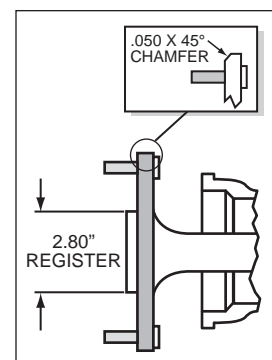

Figure 3. Axle Flange Maximum Dimension
- Axle center register diameter is 2.80", Figure 3. This kit uses Wilwood's removable center register adapters. Rotors can either be centered on the axle register, i.e. *register-centric* or centered on the wheel studs, i.e. *stud-centric*. Due to variations in wheel stud final diameters, *register-centric* centering can be a more accurate method of centering the rotor to the axle. Wilwood offers various diameter adapters for purchase in addition to the ones supplied in this kit, see Table 1.